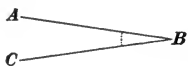

FIG. 6.
**24.** An **angle** is the opening between two lines which intersect or meet; the point of meeting is called the **vertex** of the angle. Angles are distinguished by naming the vertex and a point on each line. Thus, in Fig. 6, the angle formed by the lines  $AB$  and  $CB$  is called the angle  $ABC$ , or the angle  $CBA$ ; the letter at the vertex is always placed in the middle. When an angle stands alone so that it cannot be mistaken for any other angle, only the vertex letter need be used. Thus, the angle referred to might be designated simply as the angle  $B$ .